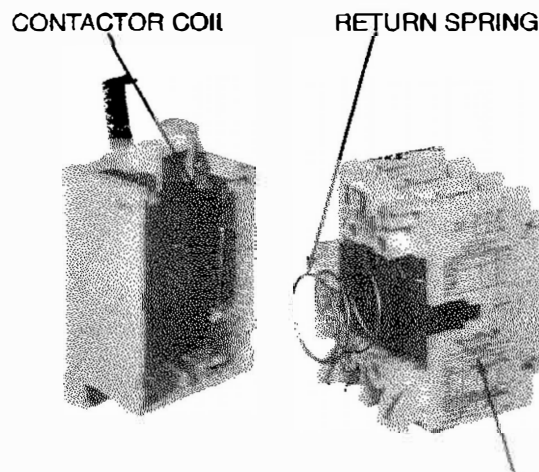

Figure 2 UPPER HOUSING ASSEMBLY
7. Position the return spring onto the armature (see Fig. 2) and install the upper housing to the lower housing (reversing procedure in Step 5).